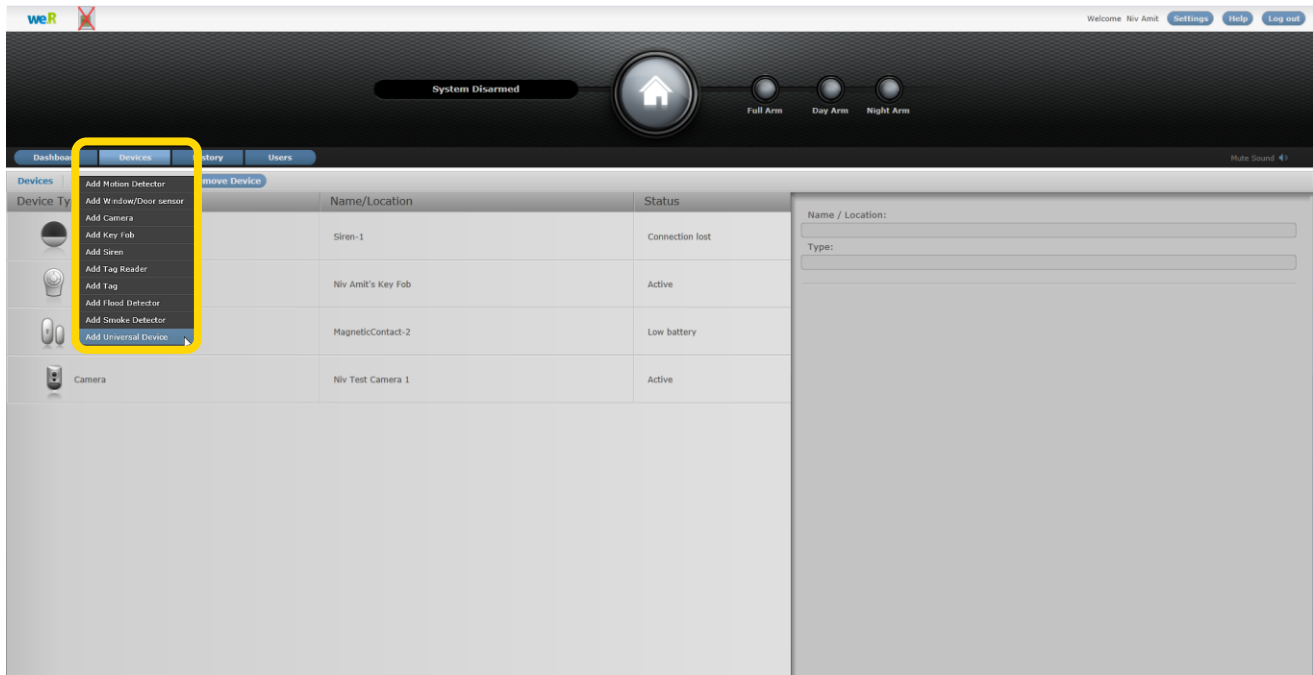

Figure 143: Add Universal Transmitter Device Utilizing Web Application
5. Click over the **Add Universal Transmitter** option of the menu as illustrated in Figure 143 above.